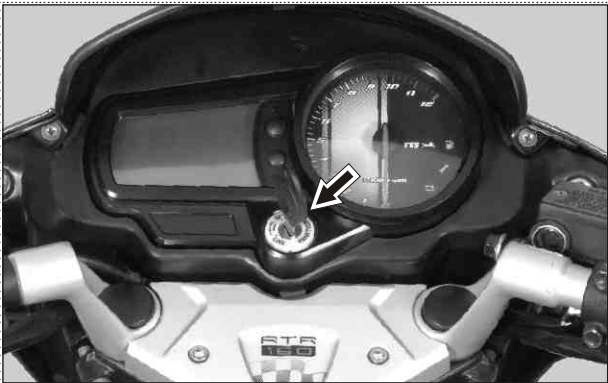

Fig. 5.7
- The ignition lock is located on the speedometer assembly. (Fig. 5.7)